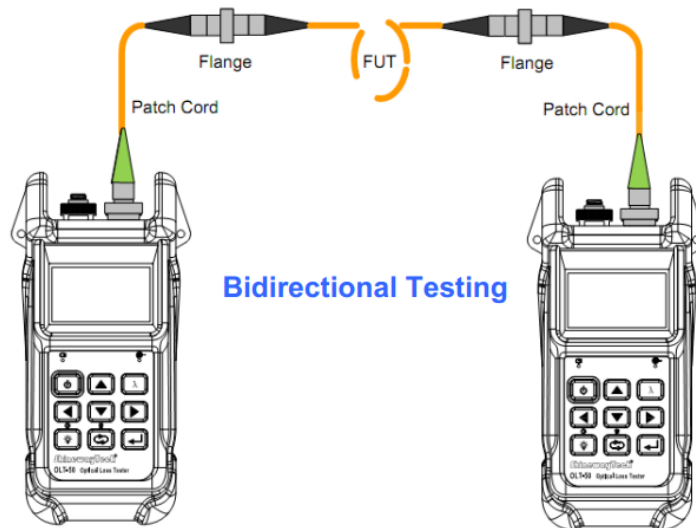

Figure 3.21
6. Toggle to [BiDirTest] sub-interface, connect measured fiber link as shown Figure 3.21, then select **Start** and then press , test is running, and then the test result will be displayed.